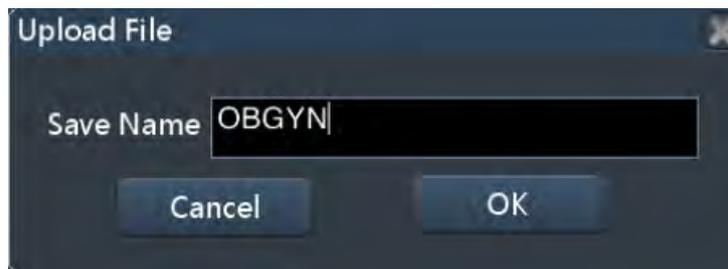

Fig. F-15 Upload setting
**Procedure:** Use the trackball to move the cursor onto the **Upload Setting** button, and then press the **Set** button to bring up the window for naming the file. Enter the name for saving in the box and click **OK**, as shown in Fig. F-15. If upload succeeds, the bottom of the main screen will display "**Setting Upload done**".